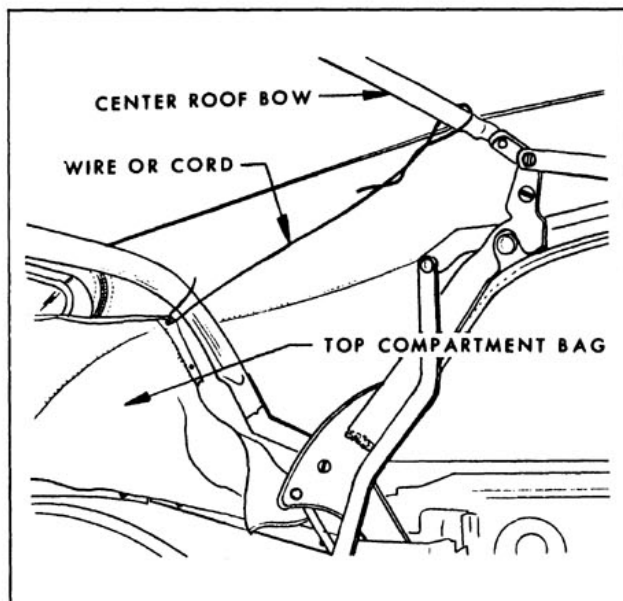

Fig. 16-127 Top Compartment Bag Held in Position
7. Detach folding top compartment bag from rear seat back panel, thus exposing rear quarter and rear trim stick attaching bolts. Forward end of top compartment bag may be tied or wired to center roof bow to provide ready access to attaching bolts. (Fig. 16-127)